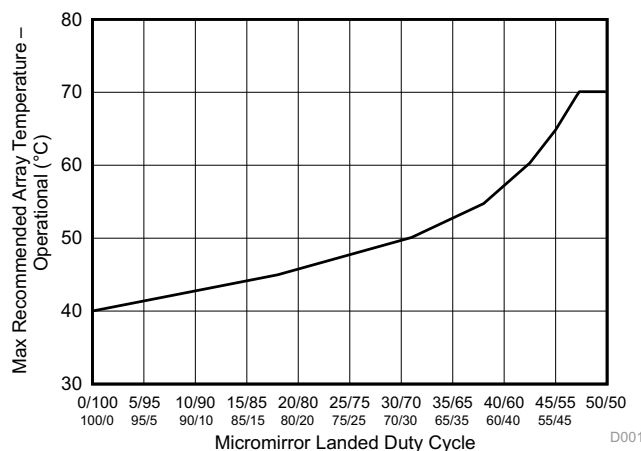

Figure 1. Max Recommended Array Temperature – Derating Curve
- (6) Per Figure 1 the maximum operational array temperature should be derated based on the micromirror landed duty cycle that the DMD experience in the end application. Refer to **Micromirror Landed-On/Landed-OFF Duty Cycle** for a definition of micromirror landed duty cycle.
- (7) Long-term is defined as the usable life of the device
- (8) Array temperatures beyond those specified as long-term are recommended for short-term conditions only (power-up). Short-term is defined as cumulative time over the usable life of the device and is less than 500 hours.